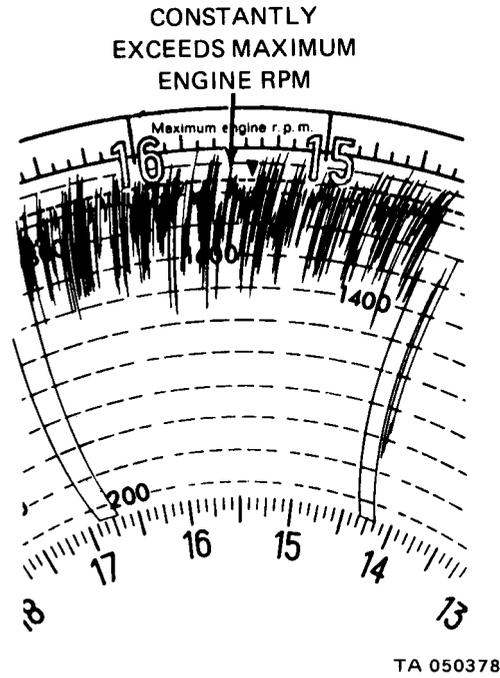

Figure 20-14. Engine Run at Excessively High RPM
(8) Engine run at excessively high RPM. High rpms can be read on the rpm field. The rpm field (Fig. 20-14) will clearly show the allowable maximum rpm is constantly being exceeded.